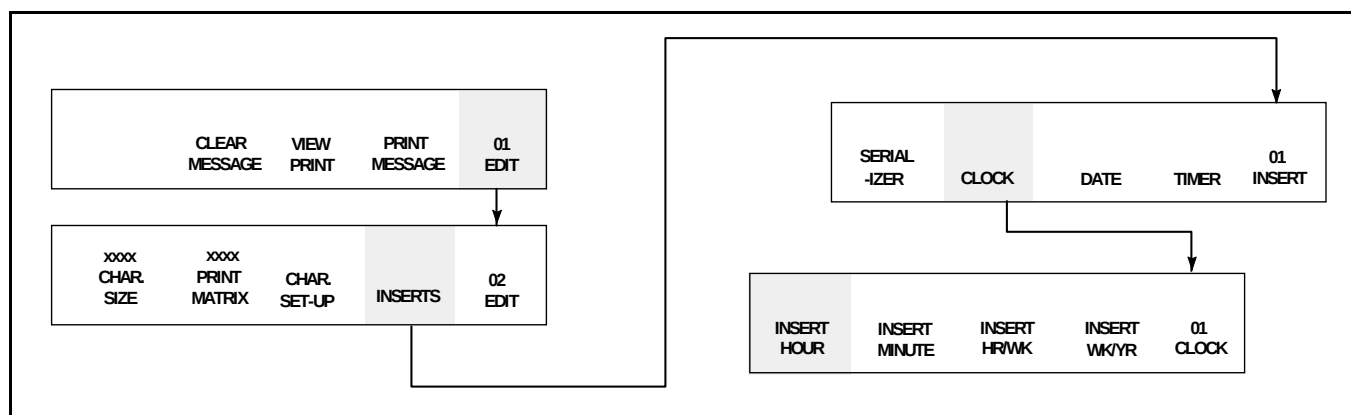

Figure 6-21. Accessing Frame <01 CLOCK>
1. Begin in Frame <01 CLOCK>. Refer to Figure 6-21.